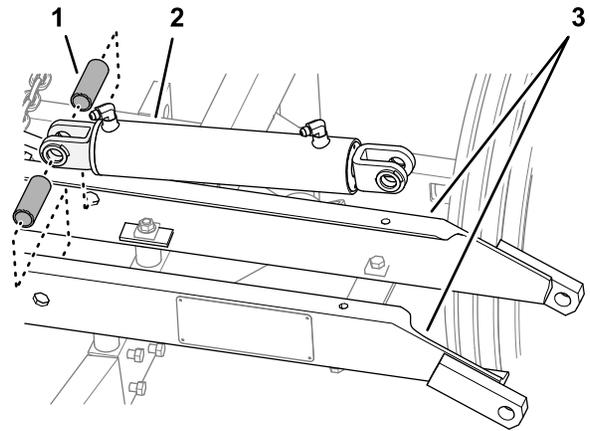

Figure 9
- Align the holes in the 2 spacer tubes and the holes in the flanges of the cutting-unit 6 lift cylinder with the 25 mm (1 inch)-diameter holes in the top of cross channels (Figure 9).